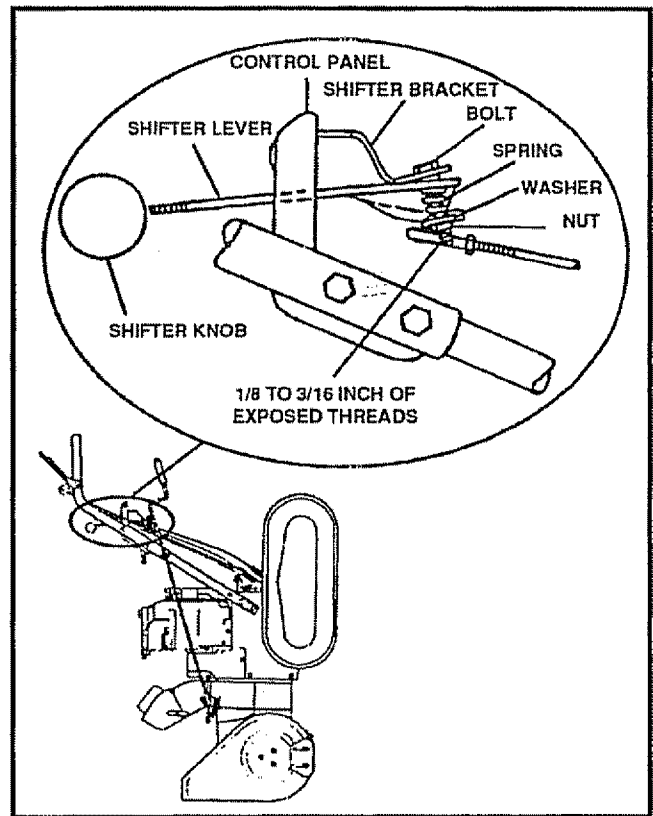

FIG. 6
- Stand the snow thrower up on the front of the auger housing, as shown in Figure 6.
- Remove the locknut, washer, spring and the bolt. Reposition the shifter lever into the slot in the control panel, as shown in Figure 6 and reinstall the bolt, spring washer and the locknut.